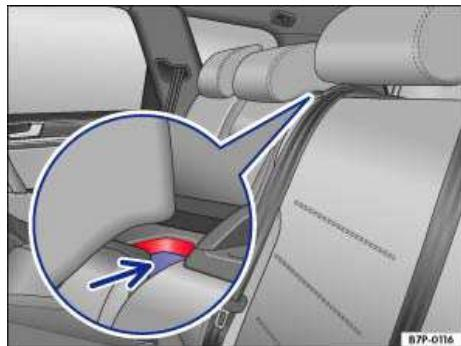

Fig. 103 In the rear backrest: Luggage compartment pass-through opening.
- Fold the middle part of the rear seat backrest (pass-through) back up (towards the rear) until it locks in to place. The red mark on the release button should no longer be visible ⇒ fig. 103.